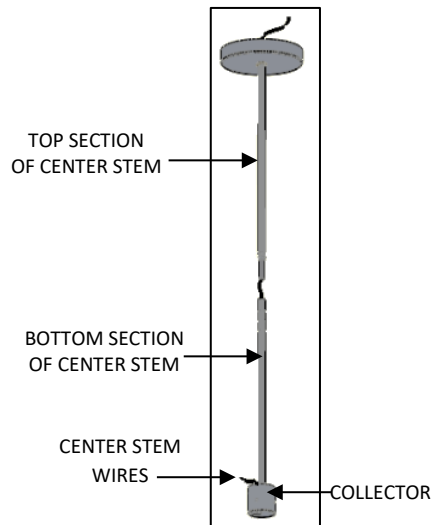

FIG. 9 – STEM INSTALLATION
3. Attach the sections of the center stem together (if applicable) at all thread coupler and make sure to build from the top down. Thread together until tight as shown in FIG. 9.
4. Insert safety cable around the collector mounting bracket then attach the collector mounting bracket to the center stem with the provided hardware. Run the safety cable through the stem to the canopy. Feed aircraft cables through the small holes in the side of the collector. Attach the collector to the collector mounting bracket with provided hardware FIG.9.
5. Feed the wires through the assembled CENTER STEM as shown in FIG. 9.